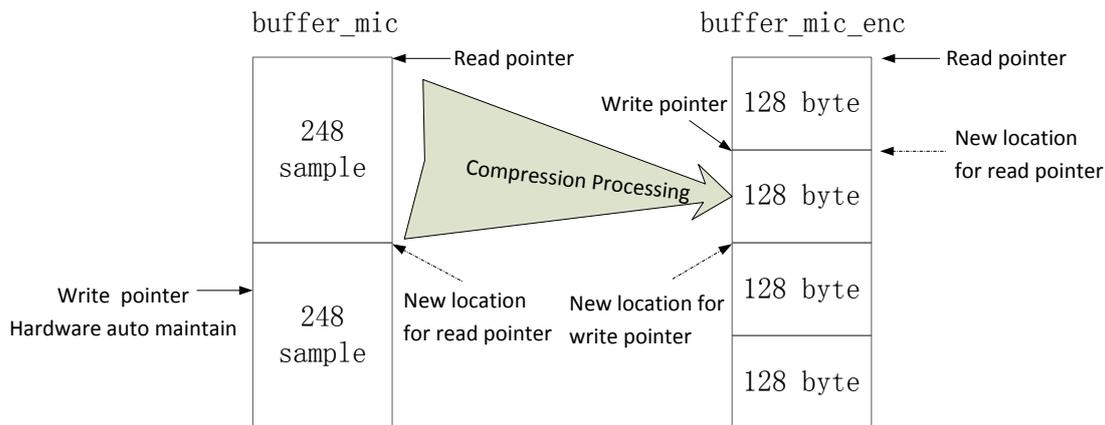

Figure5-5 Compression processing
- ✧ “ps” points to the starting storage address for data before compression, which corresponds to the read pointer location of the buffer_mic as shown in Figure5-5;
- ✧ “len” is configured as TL_MIC_ADPCM_UNIT_SIZE (248), which indicates 248 samples;
- ✧ “pds” points to the starting storage address for compressed data, which corresponds to the write pointer location of the buffer_mic_enc as shown in Figure5-5.